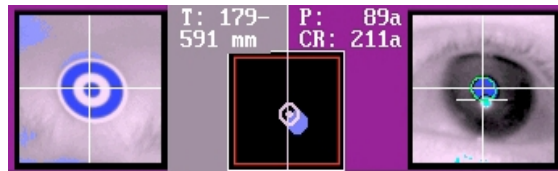

Figure 3-10: Target and Eye Positions in the Thumbnail Camera Images
- 19) Following the initial adjustments in the Camera Setup Screen, the experimenter should continuously monitor the thumbnail camera images at the lower left corner of the tracker screen when in the Offline, Calibrate, Validate, Drift Correct, Output and Record screens (see Figure 3-10). The two dots in the middle panel reflect the ever-changing target and eye positions in the global camera image. For reliable tracking, both dots should stay within the red box. Adjustment of the camera's view of the participant is advised if you experience difficulties in tracking them.